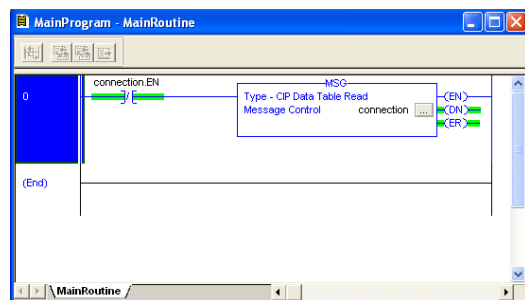

Figure 63: Complete Program
6) The program is now complete. Refer to Figure 63.